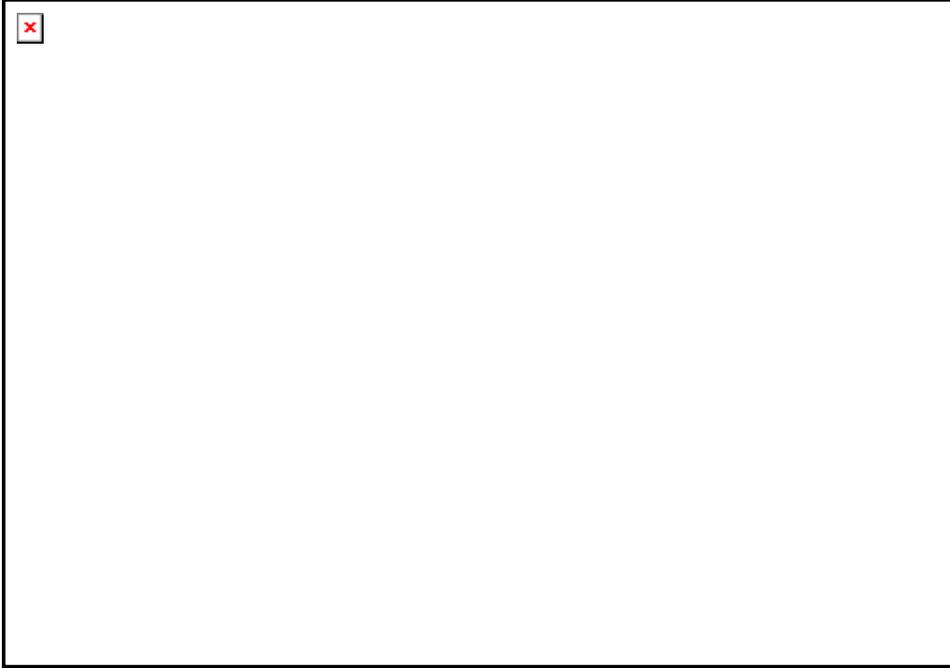

Figure 7-7 Removing the Z-Axis Drive Assembly Mid Cover
- 3 Remove the Z-Axis Drive Assembly Mid Cover (Part No. 204004900) by removing the two M3 x 6 Button Head screws and two M3 shakeproof washers that attach the cover to the Drive Assembly and unsnapping it from the body (Figure 7-7).